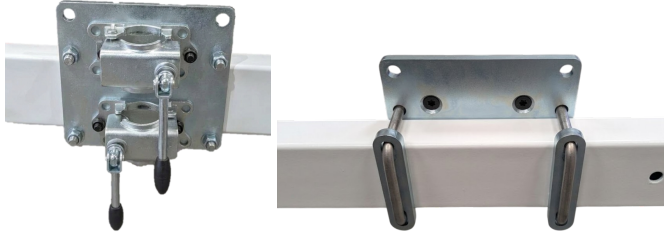

Figure 9 — Front and Rear view of trailer mount with U-bolts and 100mm U-bolt back plates
2. Slide the U-bolts with their back plates onto your trailer drawbar and then slide the trailer mount onto the U-bolts so they sandwich the drawbar. The trailer mount should be orientated as seen in Figure 9 with the two mounting holes that are close together at the top of the plate.